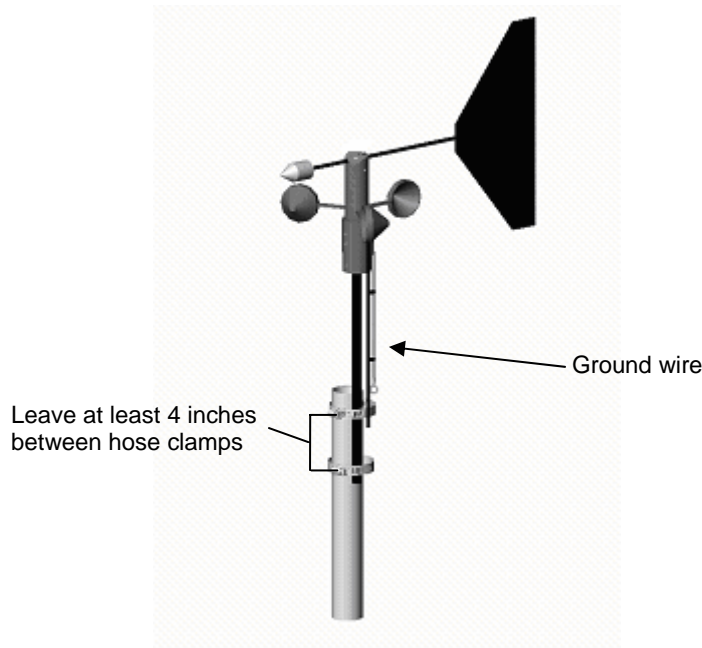

Figure 3: Sensor Mounted on Pole
2. Secure the Wind Speed/Direction smart sensor with two hose clamps (not included), as shown in Figure 3. Adjust the height as necessary, but make sure the hose clamps are separated by at least 4 inches (10 cm).